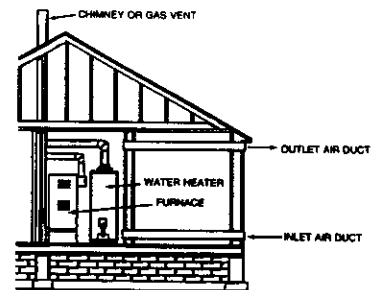

Figure 5
3. When communicating with the outdoors through horizontal ducts, each opening shall have a minimum free area of 1 square inch per 2,000 BTU per hour of total input rating of all equipment in the enclosure. (See Figure 5.)
4. When ducts are used, they shall be of the same cross-sectional area as the free area of the openings to which they connect. The minimum short side dimension of rectangular air ducts shall not be less than 3". (See Figure 5.)